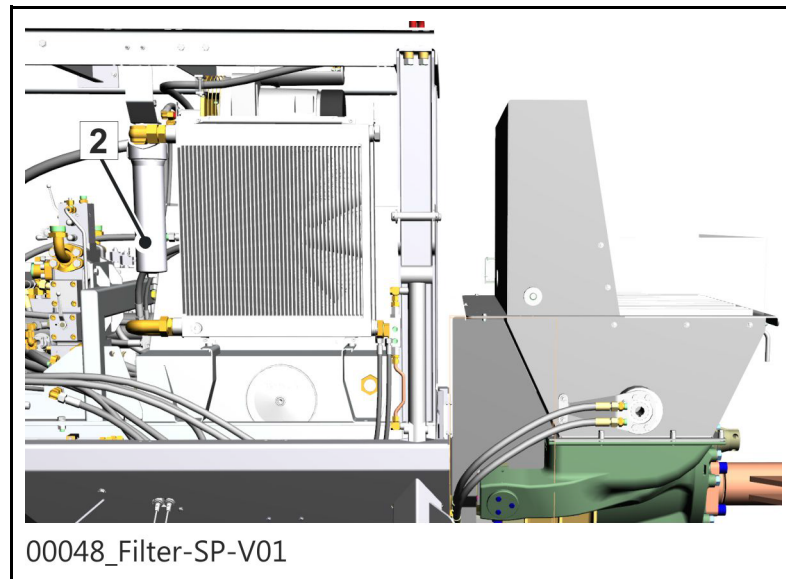

Fig. 151 SP 3800
The machine is equipped with a main filter (2) (**Fig. 151**). The filter is located inside the machine.